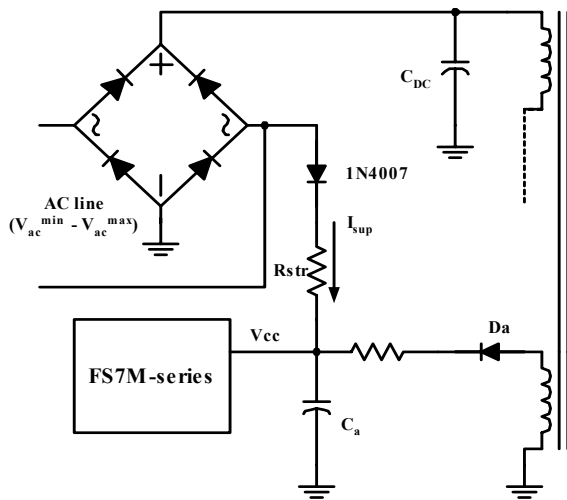
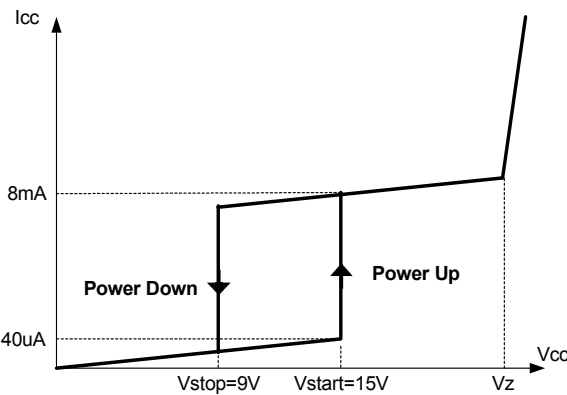

Figure 4. Startup circuit
Figure 5. Relation between operating supply current and Vcc voltage
**1. Startup** : Figure 4 shows the typical startup circuit and transformer auxiliary winding for FS7M-series. Because all the protections are implemented as latch mode, AC startup is typically used to provide a fast reset as shown in Figure 4. Before FPS begins switching operation, only startup current (typically 40uA) is consumed and the current supplied from the AC line charges the external capacitor (Ca) that is connected to the Vcc pin. When Vcc reaches start voltage of 15V (VSTART), FPS begins switching, and the current consumed by FPS increases to 8mA. Then, FPS continues its normal switching operation and the power required for this device is supplied from the transformer auxiliary winding, unless Vcc drops below the stop voltage of 9V (VSTOP). To guarantee the stable operation of the control IC, Vcc has under voltage lockout (UVLO) with 6V hysteresis. Figure 5 shows the relation between the FPS operating supply current and the supply voltage (Vcc).